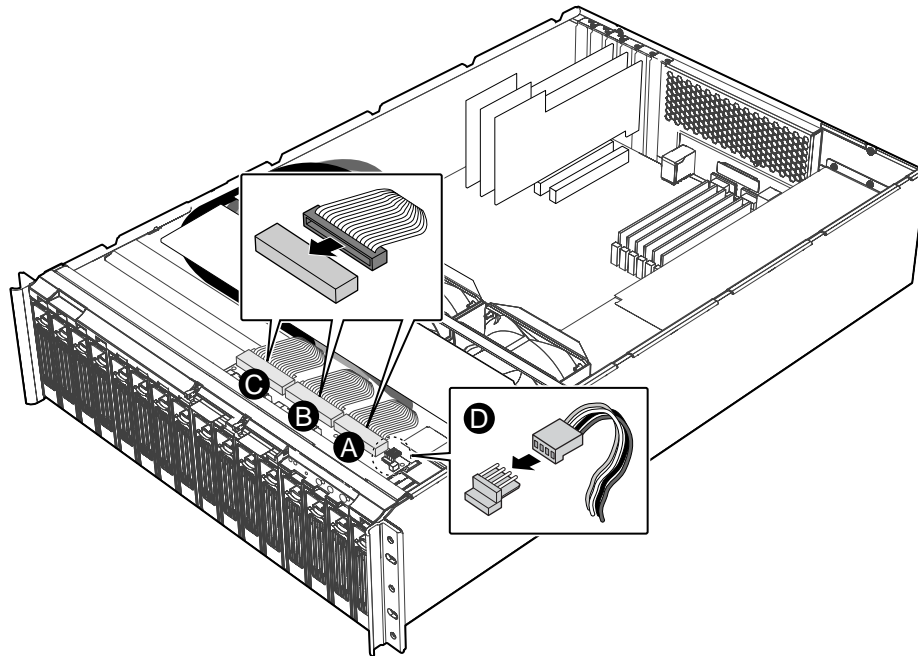

Figure 39. Re-seating Front Panel Board Cables
- A. Re-seat the Front Panel Cable labeled J1 into its connector receptacle on the front panel board. See Figure 39.
- B. Re-seat the Secondary IDE Cable labeled J3 into its connector receptacle on the front panel board. See Figure 39.
- C. Re-seat the Primary IDE Cable labeled J5 into its connector receptacle on the front panel board. See Figure 39.
- D. Re-seat the front panel power connector into its connector receptacle on the front panel board. See Figure 39.